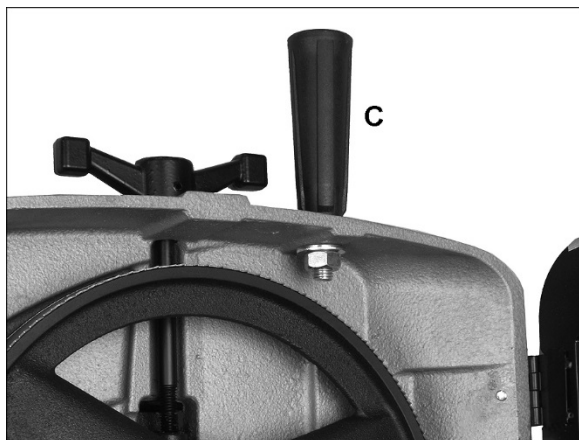
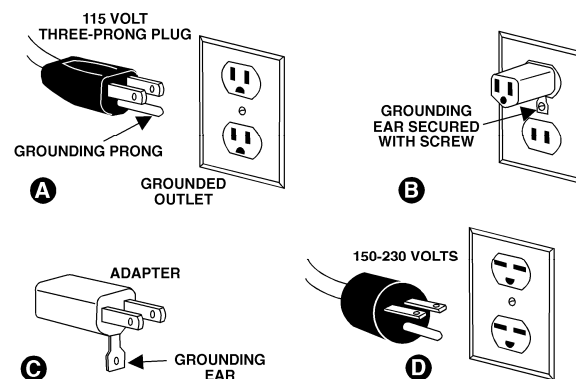

Figure 6-5: installing handle
Figure 7-1: grounding
4. Install handle with flat washers and nut (C, Figure 6-5), using 19mm wrench. To install, raise bow to vertical position and open guard. **CAUTION:** Spring-tensioned stop bracket (see Figure 7-1) must be rotated out of the way before raising bow.
The HVBS-712V and HVBS-712DV Band Saw is rated at 115V power. The band saw comes with a plug designed for use on a circuit with a *grounded outlet* that looks like the one pictured in **A**, Figure 7-1.
This tool is intended for use on a circuit that has an outlet that looks like the one illustrated in **A**, Figure 7-1. An adapter, shown in **B** and **C**, may be used to connect this plug to a 2-pole receptacle as shown in **B** if a properly grounded outlet is not available. The temporary adapter should be used only until a properly grounded outlet can be installed by a qualified electrician. The green-colored rigid ear, lug, and the like, extending from the adapter must be connected to a permanent ground such as a properly grounded outlet box. **Note:** *In Canada, the use of a temporary adaptor is not permitted by the Canadian Electrical Code, C22.1.*